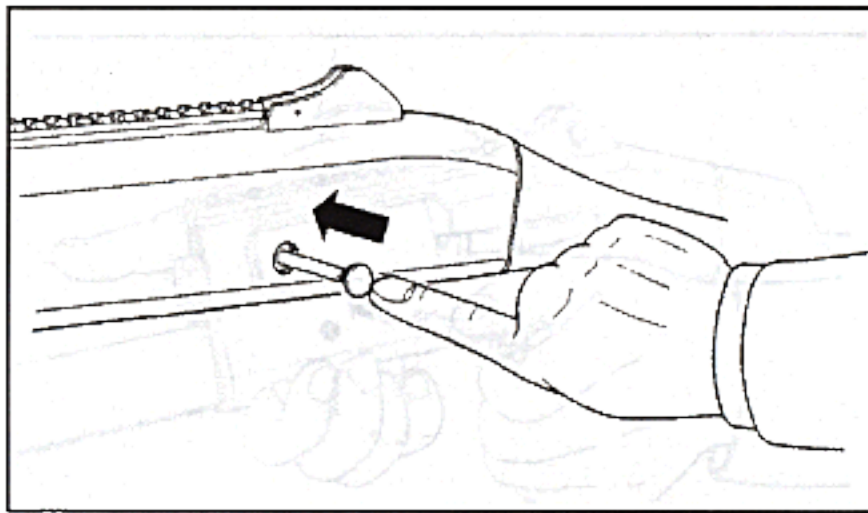

**Figure 37. Installing the trigger group in the receiver**
- A. **Depress bolt release button (Figure 37)** – Depress and hold in the bolt release button while installing the trigger group into the receiver to avoid damaging the shell stop and shell release levers.
- D. **While holding in the bolt release button**, insert the rear tang of the trigger group into the opening for it in the receiver. Rotate the front of the trigger group upwards into place in the receiver until the hole for the trigger group locking pin aligns (**Figure 37**).